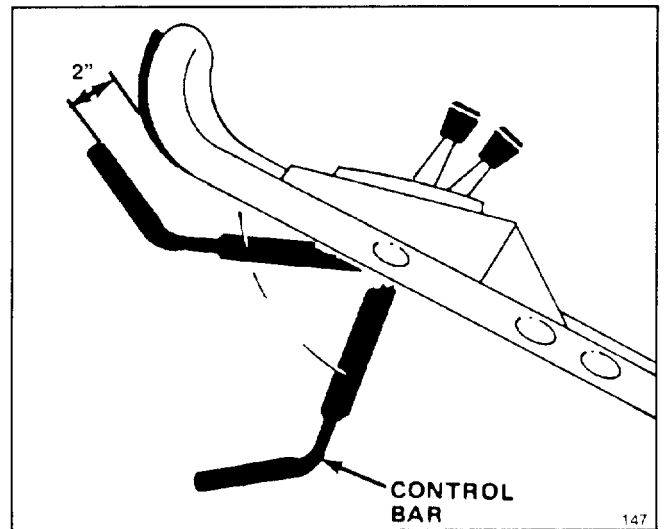

Figure 9
2. Push the control bar down to the lowest position (Fig. 9). This "latches" the mechanism prior to engaging the blade.
2. Push the control bar (Fig. 9) down to the lowest position.